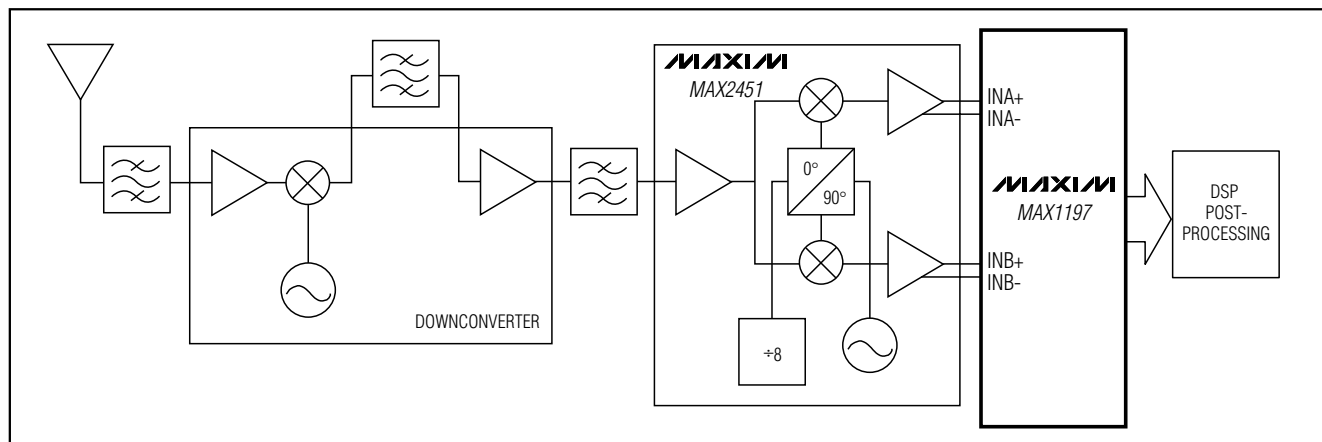

Figure 10. Typical QAM Application Using the MAX1197
modulation (QAM). Typically found in spread-spectrum-based systems, a QAM signal represents a carrier frequency modulated in both amplitude and phase. At the transmitter, modulating the baseband signal with quadrature outputs, a local oscillator followed by subsequent upconversion can generate the QAM signal. The result is an in-phase (I) and a quadrature (Q) carrier component, where the Q component is 90° phase shifted with respect to the in-phase component. At the receiver, the QAM signal is divided down into its I and Q components, essentially representing the modulation process reversed. Figure 10 displays the demodulation process performed in the analog domain, using the dual matched 3V, 8-bit ADC MAX1197 and the MAX2451 quadrature demodulator to recover and digitize the I and Q components.